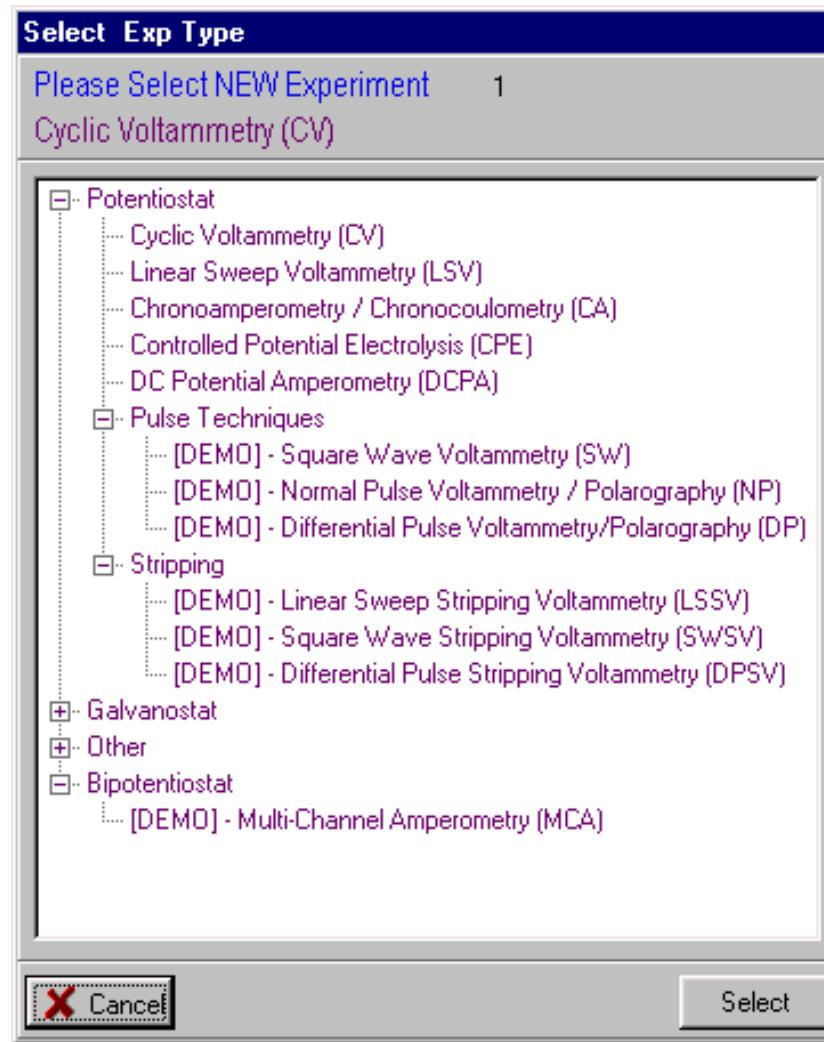

Figure 1. Technique list.
3. Click **New** in the **File** menu (or use the **F2** key) to set up a new experiment. The list of available techniques is displayed (**Figure 1**) (this list can also be accessed using **Select New Experiment** in the **Experiment** menu). It should be noted that there are some techniques that are labeled as **DEMO**. This label indicates that this technique is NOT active on this particular epsilon. However, it is possible to load a data file for that technique to examine the parameters and the typical output. If the **RUN** button is clicked when a **DEMO** data file is displayed in the active window, an error message will be shown. The technique list shown in **Figure 1** is the list for the basic epsilon (i.e., pulse techniques, stripping techniques, and multi-channel amperometry are NOT available).